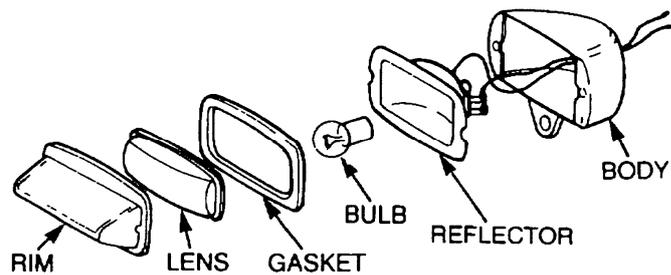

Figure 185 Reduced Headlight Exploded View
- a. Remove the two screws securing the light rim, lens and gasket (Figure 185).